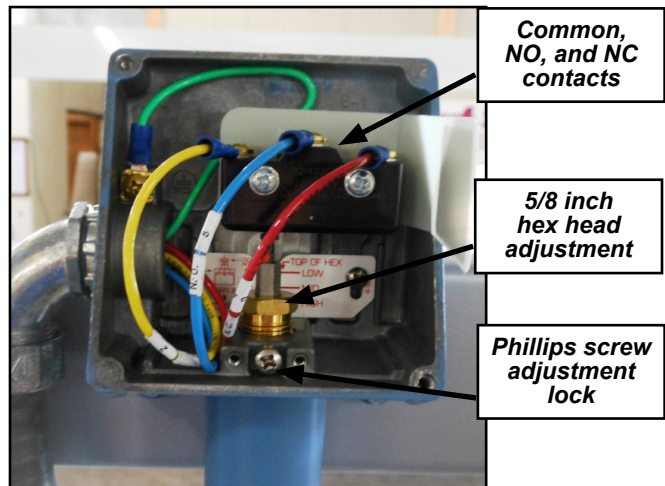

Figure 20 - Setting PS-1 or PS-2
- Loosen phillips screw adjustment lock (see Figure 20).
- To adjust the set point on the pressure switch, turn the 5/8" hex adjustment clockwise to raise set point, or counter clockwise to lower set point (see Figure 20).